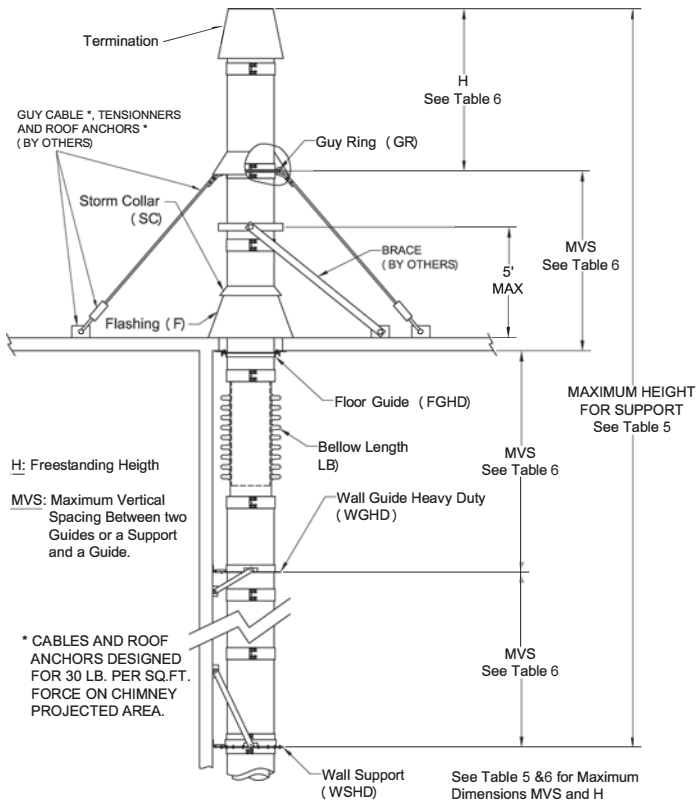

Figure 3 - Maximum Supported Height
- Supports and guiding methods and installation are described in **SECTION E-SUPPORTS**. Certain limitations apply for proper installation of supports and guides. See **Tables 5, 6, 7 and Figures 3 and 4**.
1. Proper guying and bracing is essential for part of the chimney that extends above the roof or parapet wall. The chimney at this point is subject to wind conditions and needs special attention for proper stabilization. **See Figure 3.**